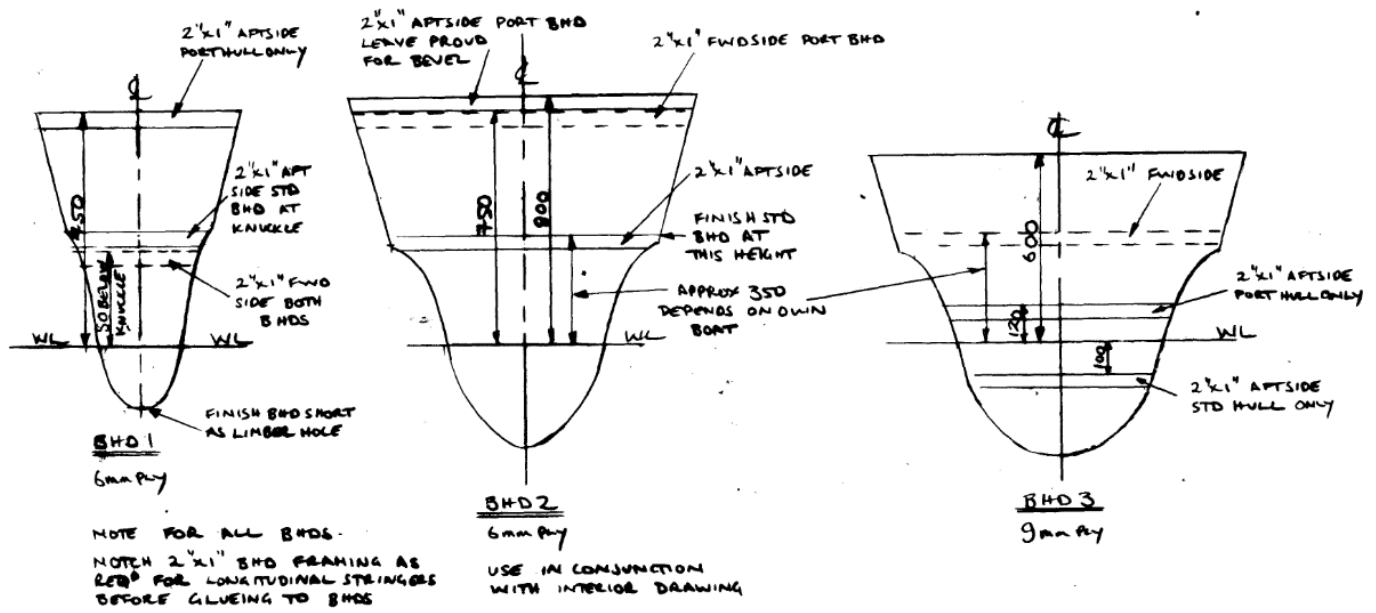

Figure 5: Lower Sections of Bulkheads 1, 2 & 3
- Figure 5: Lower Sections of Bulkheads 1, 2 & 3;